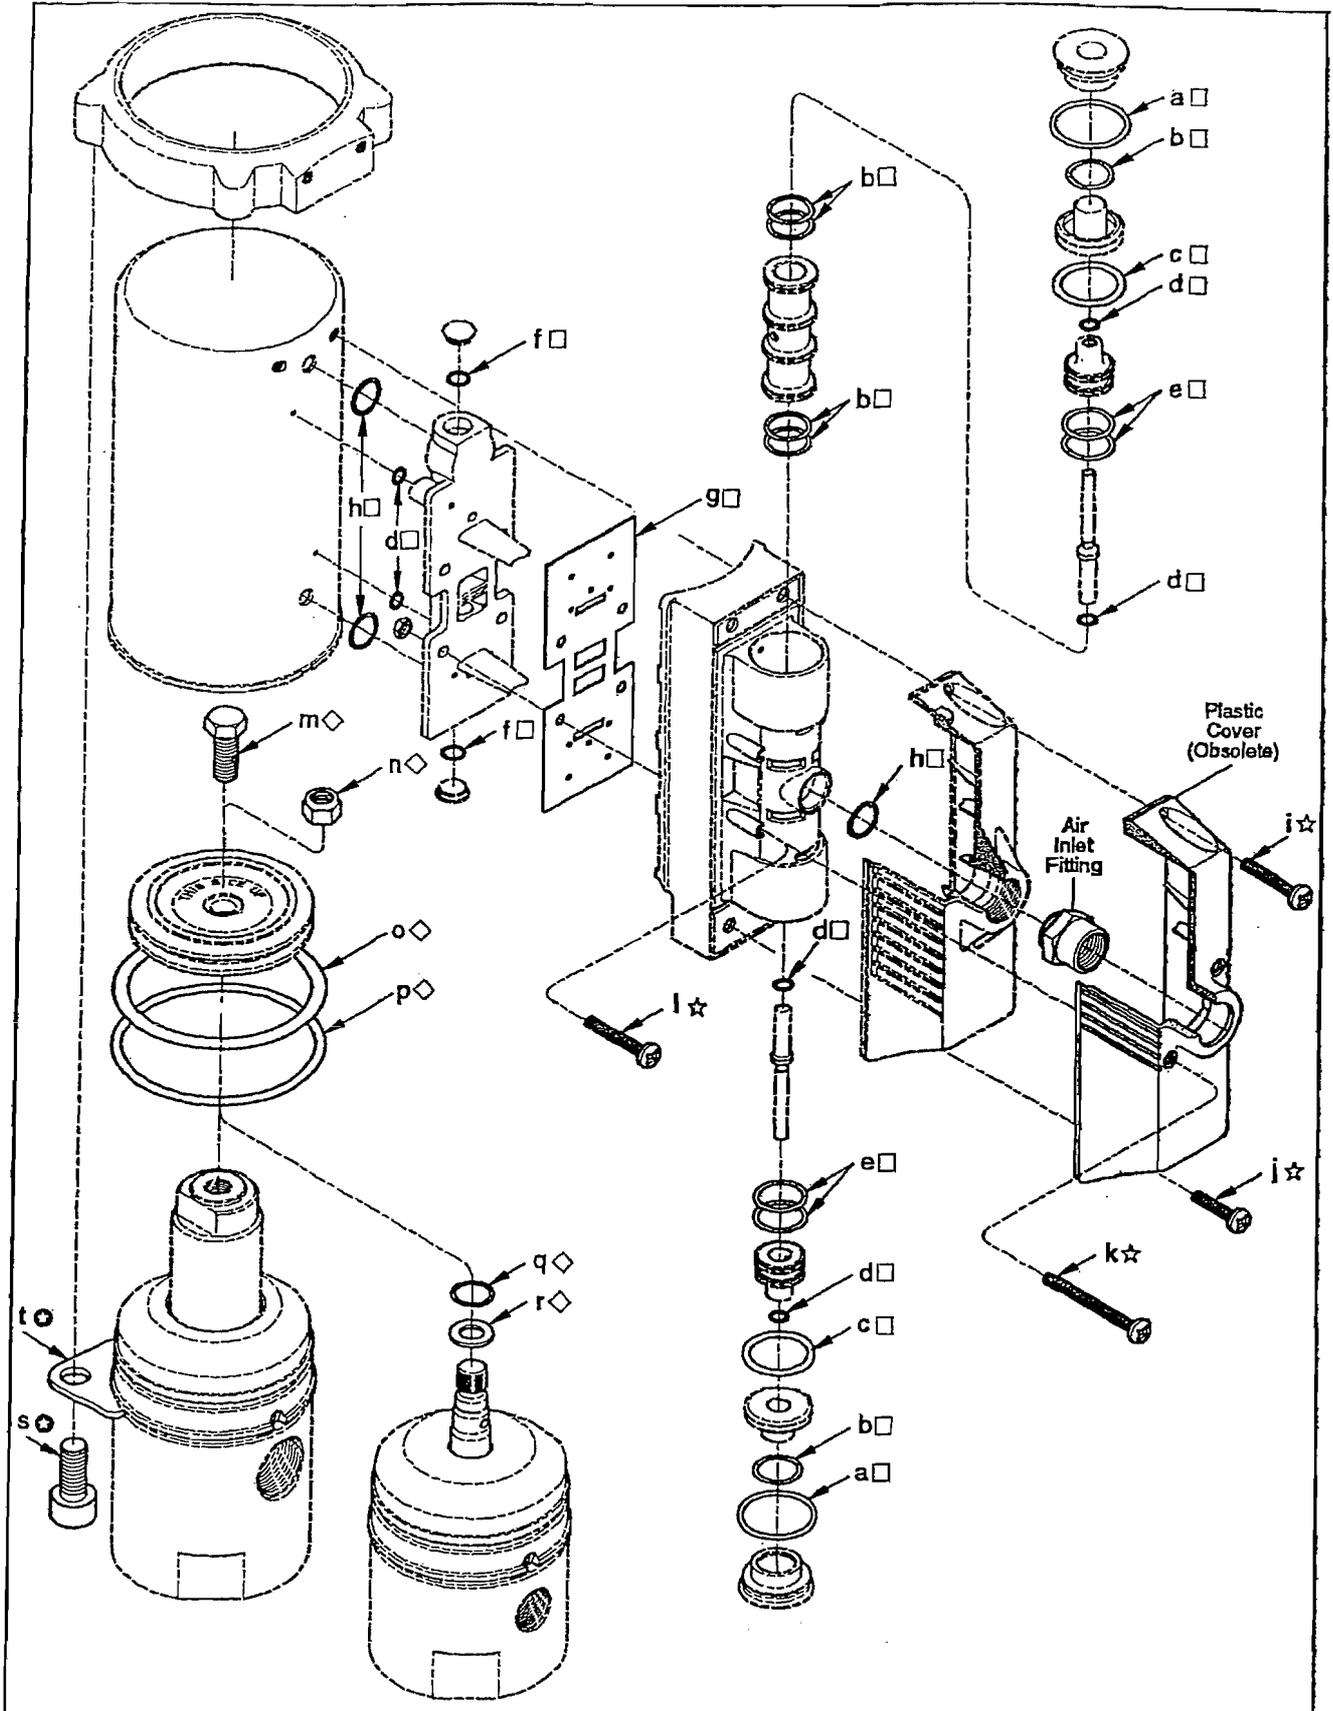

Figure 3 Additional Kits for Air Motor and Pump Tube Assembly
The pump tube assembly is secured to the motor with bolts. The bolts retain keepers that hold the body of the pump tube to the mounting ring of the air motor. See Figure 3.
4. Remove Screws (13) and (15) that secure Cover (12) to Cylinder (22).
5. Remove O-Rings (14) and O-Rings (6) from the rear of Manifold (21).
6. Remove Mounting Ring (23) from the Cylinder.
**NOTE:** On earlier models, remove Screws (k) that secure the plastic cover to the Body and Manifold. See Figure 3.
7. Remove the Cover from Body (11).
8. Remove O-Ring (14) from the Cover.
**NOTE:** On earlier models, remove O-Ring (h) from the air inlet fitting. See Figure 3.
9. Remove Screws (16) that secure the Body to the Manifold.
- Remove Nuts (19) from the rear of the Manifold.
11. Remove Gasket (20) from the Manifold.
12. Remove Plugs (17) from each end of the Manifold.
- Remove O-Ring (18) from each Plug.